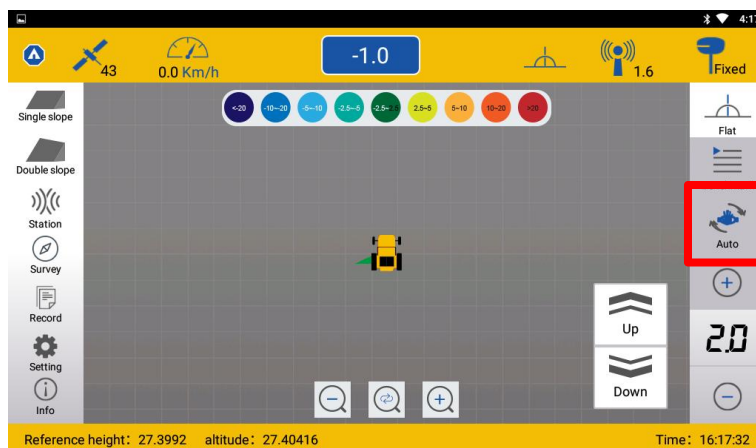

Figure 7
Step4. Click the manual-automatic switch button to switch to the automatic mode. Start working in automatic mode. (Figure 7)